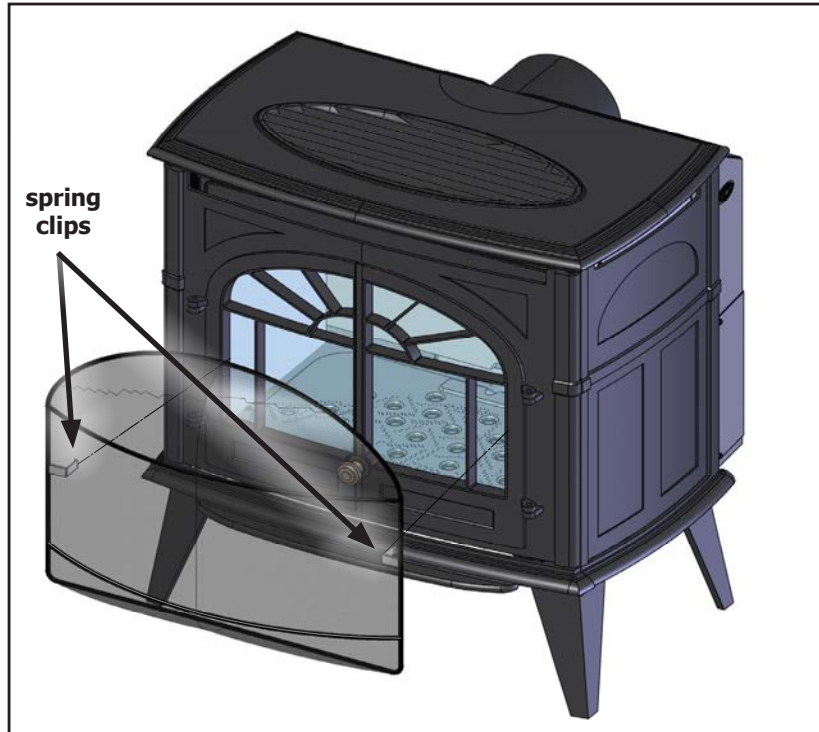

Figure 71: Safety Screen Installation
1. Align the spring clips on the side of the screen with the inside edge of the cast door (see figure 71)